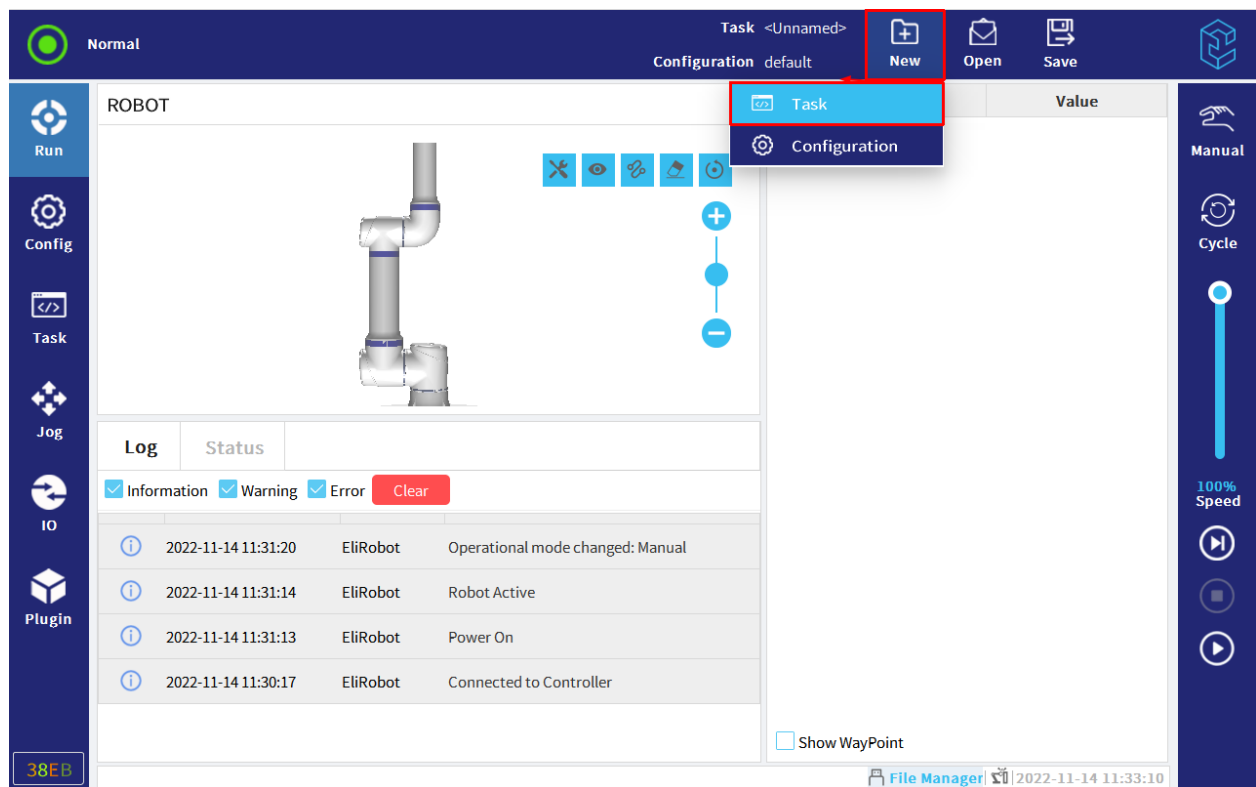

Figure 8-5 New task
1. In task and configuration manager, click "New", and then select "Task", as shown in Figure 8-5.